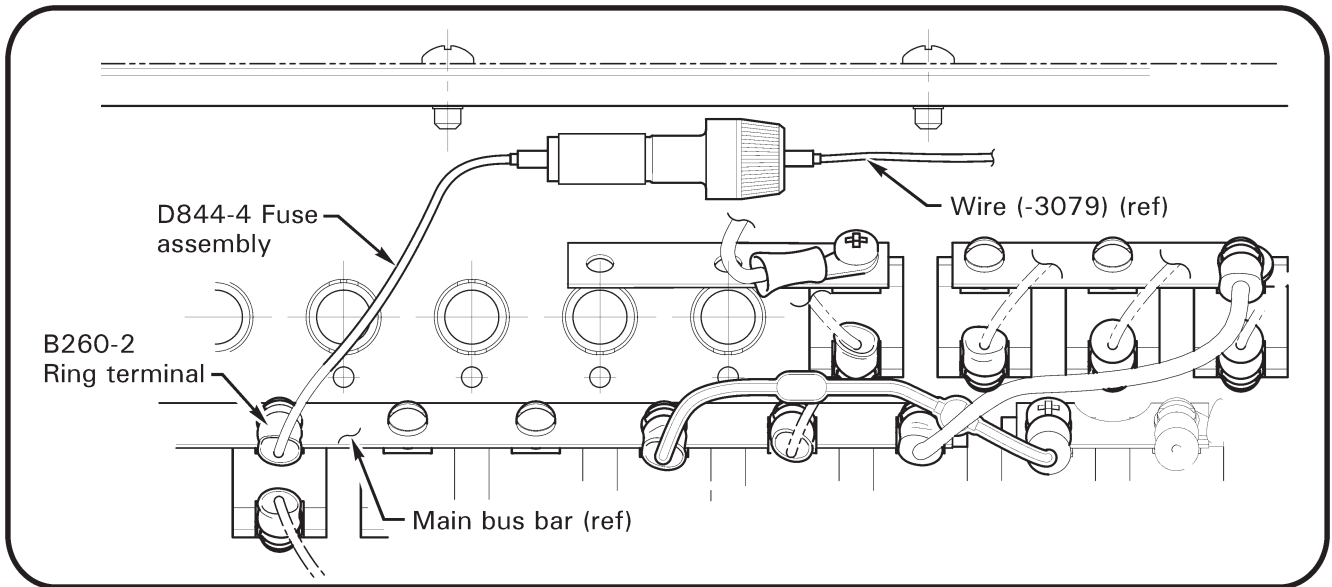

**FIGURE 3 Connecting camera to D844-2 harness**
11. Refer to Figure 3 and 4. Using a rigid metal rod carefully route upward behind bulkhead foam insulation on LH (seat back) side, along existing wire bundle, then forward along left side of helicopter centerline. Secure wire harness wires to rod and carefully retract rod downwards, routing above 220-242400-09 clips (see R44 Illustrated Parts Catalog [IPC] Figure 63-11).
- b. Refer to Figure 3. Insert F714-4 flash drive assembly to USB port of F039-2 enclosure. Toggle helicopter battery switch ON for minimum 30 seconds; video will record automatically. While video is recording, activate & route an audio source (such as ATIS) to copilot headset. Toggle helicopter battery switch OFF.
- d. If horizon slants to the right (as shown in Figure 6), adjust angle by loosening two NAS1352-04-4 screws holding lens (see Figure 3) and rotate lens counterclockwise while facing lens; if horizon slants to the left, rotate lens clockwise. Tighten screws. Repeat steps b & c.